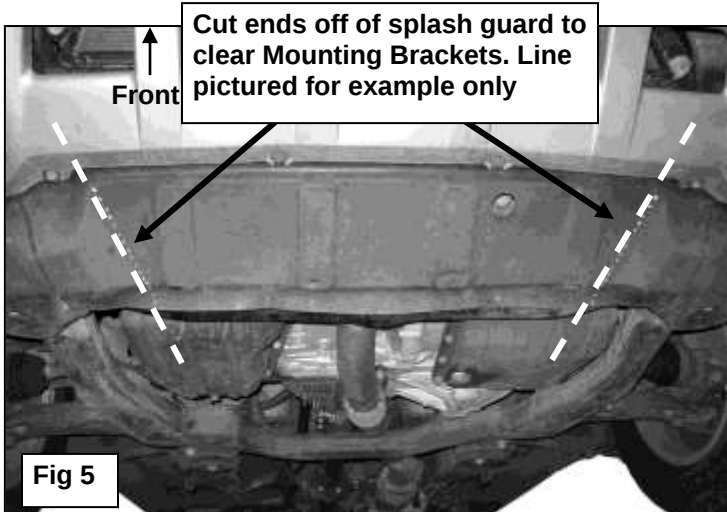

Fig 5
- In order to re-install the plastic splash guard, some cutting is necessary. Once the Bull Bar is fully mounted, hold the splash guard up into its original position and mark the (2) locations that will need to be cut, **(Figure 5)**. Re-install the splash guard with the factory hardware removed in Step 1.